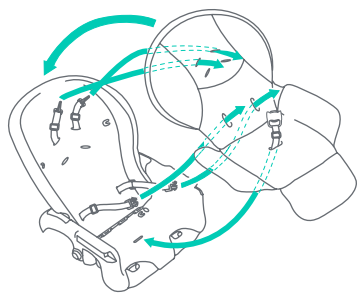

Fig. 20
20) • Thread non-buckle end of Harness Straps called Harness Attachment Tabs through the provided slots in the Seat Fabric, Seat Insert, Seat Back, and Seat Base (Fig. 20). When Harness Attachment Tabs are through the provided slots, rotate the Harness Attachment Tabs 90 degrees. Make sure that the straps are firmly in place.